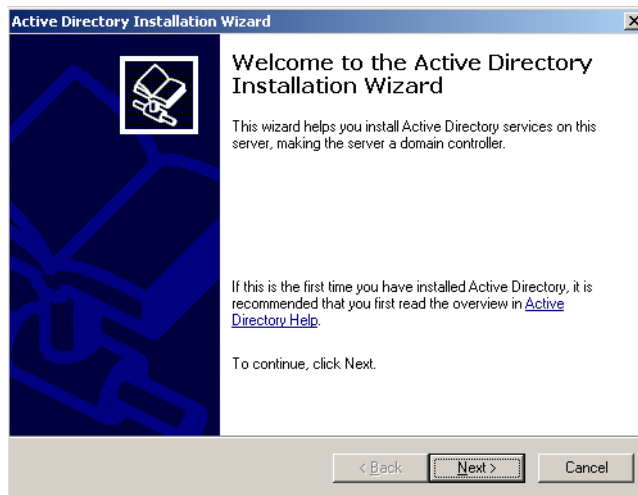

Figure D-27 Active directory installation wizard start
8. From the **Active Directory Installation Wizard** shown in figure D-27, click the **Next** button to begin the installation.